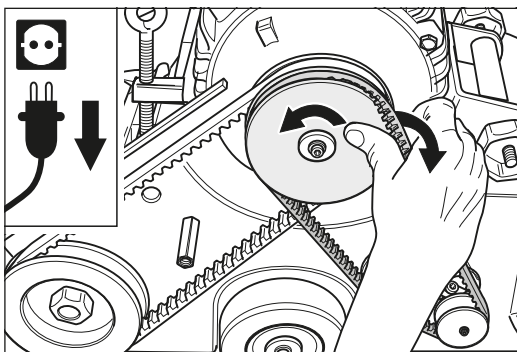

Fig. 53 Remove the suction V-belt.
- 7 Turn the motor pulley and allow the suction V-belt to run off the motor pulley (fig. 53).